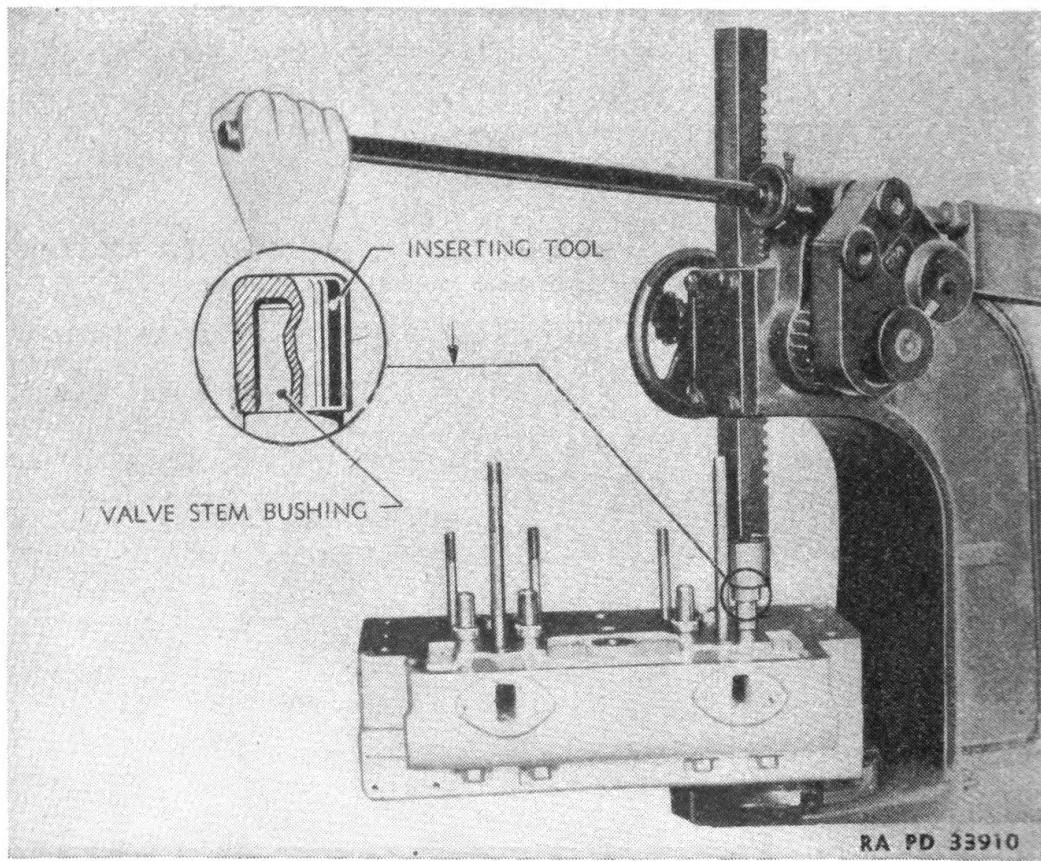

FIGURE 21.—Inserting valve stem bushing.
- (1) The valve stem bushings can be driven out from the inside of the head with a suitable drift.
- (2) The bushings should be pressed into place carefully with the type of driver shown in figure 21 to prevent damage to their ends.
- (3) Bushings should always be reamed to .499 inch to .500 inch after they have been pressed into place.